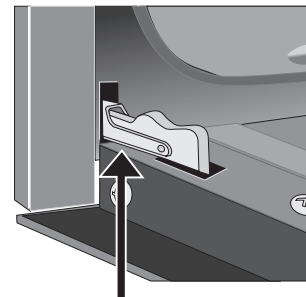

Figure 45: Door hinge locks/unlock positions
2. Pull up the lock located on each hinge support toward front of the oven. You may have to apply a little upward pressure on the lock to pull it up (Figure 45 and Figure 46).